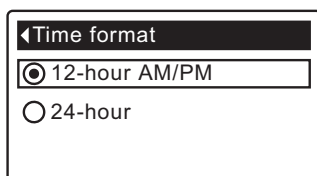

FIG. 51
1. From any of the rolling status screens, press the SELECT (O) button to display the **Main menu**.
3. Press the SELECT (O) button to display the User preferences menu.
5. Press the SELECT (O) button to display the Time format menu (See Figure 51).
6. If the desired time format already has a black dot next to it (See Figure 51), go to Step 7. Otherwise, press the DOWN (▼) or UP (▲) buttons to scroll to the other time format, then press SELECT (O) to choose it.
7. Press the SELECT (O) button. The display will go back to the User preferences menu.